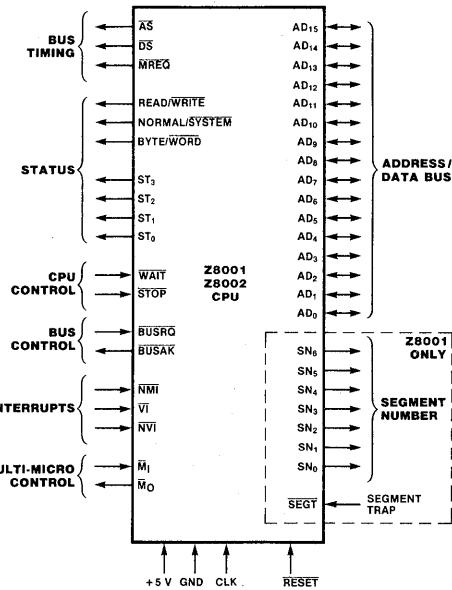

Figure 2.3. Z8000 Pin Functions
2.3 Hardware Interface Figure 2.3 shows the Z8000 pins grouped according to function. The Z8001 is packaged in a 48-pin DIP and the Z8002 is packaged in a 40-pin DIP. The eight additional pins on the Z8001 are the seven segment-number lines and the segment trap. Except for those eight, all pins on the two CPU versions are identical.